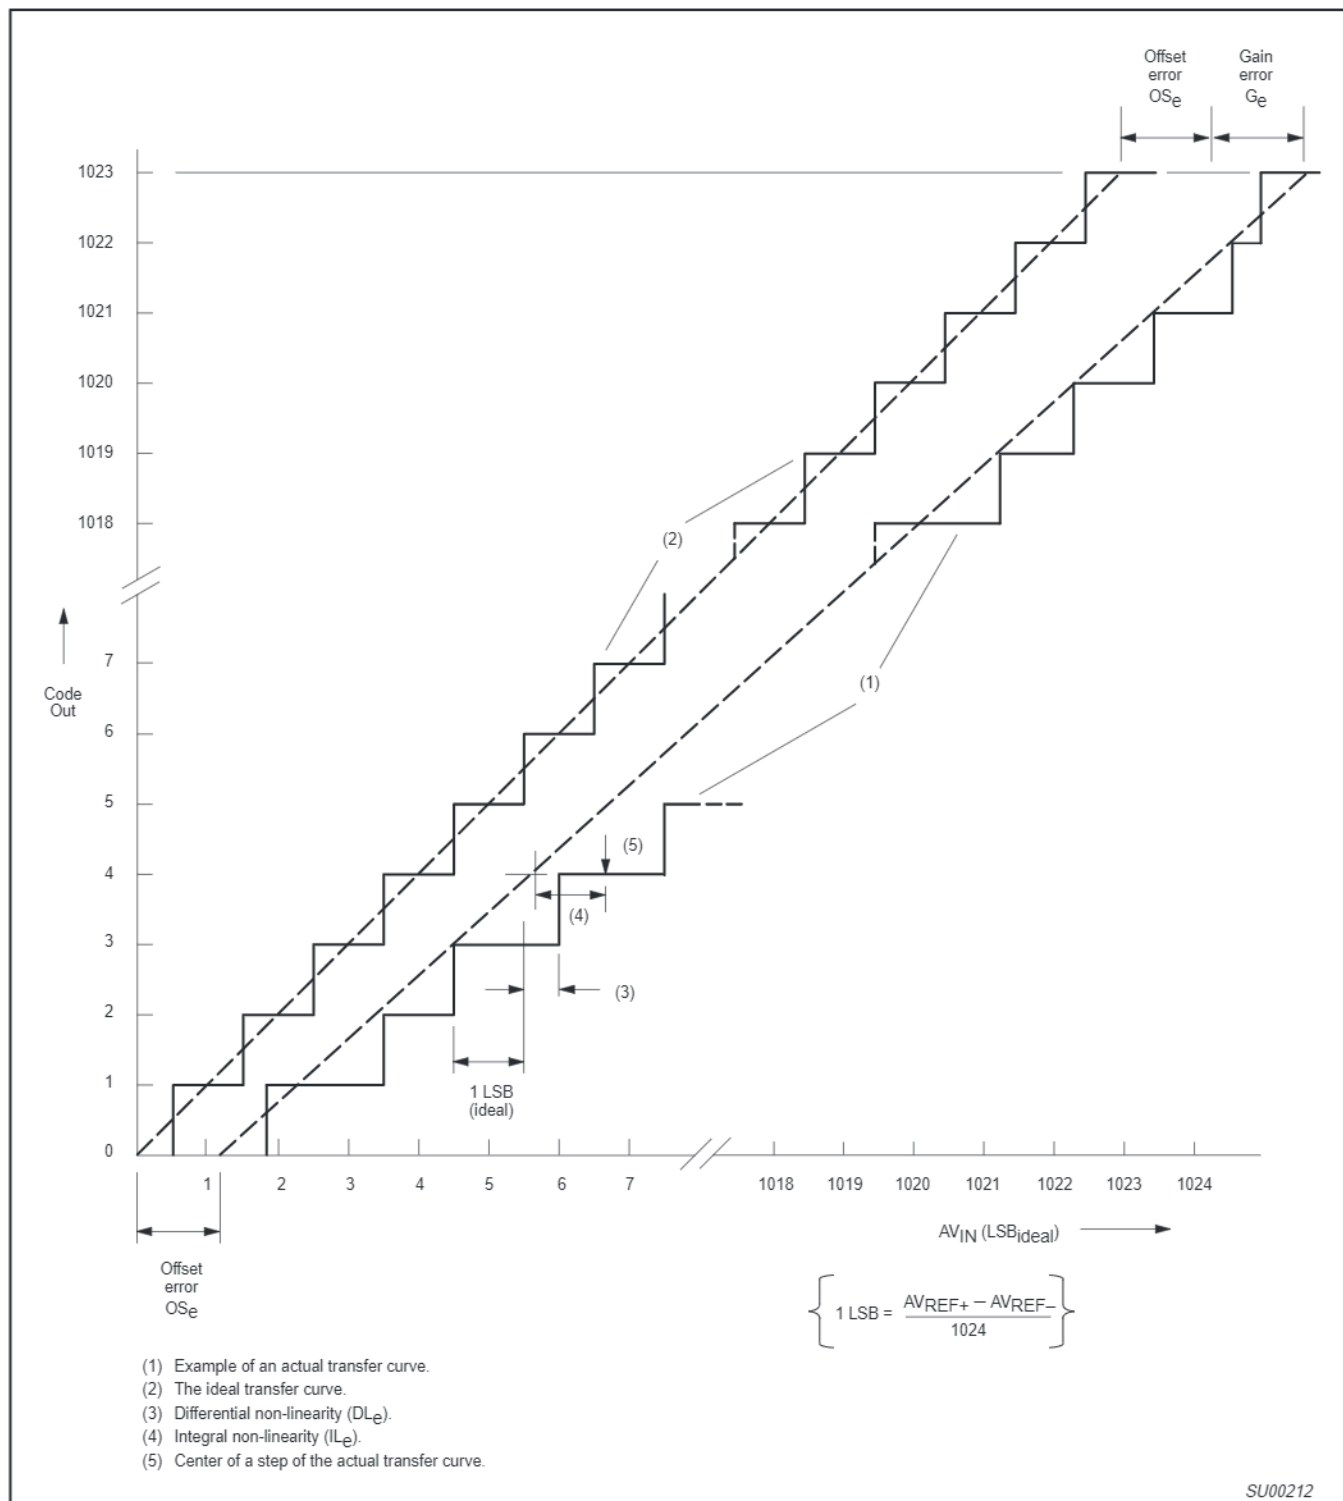

Figure 48. ADC Conversion Characteristic
- The differential non-linearity (DL_e) is the difference between the actual step width and the ideal step width. (See Figure 48.)
- The integral non-linearity (IL_e) is the peak difference between the center of the steps of the actual and the ideal transfer curve after appropriate adjustment of gain and offset error. (See Figure 48.)
- The offset error (OS_e) is the absolute difference between the straight line which fits the actual transfer curve (after removing gain error), and a straight line which fits the ideal transfer curve. (See Figure 48.)
- The gain error (G_e) is the relative difference in percent between the straight line fitting the actual transfer curve (after removing offset error), and the straight line which fits the ideal transfer curve. Gain error is constant at every point on the transfer curve. (See Figure 48.)